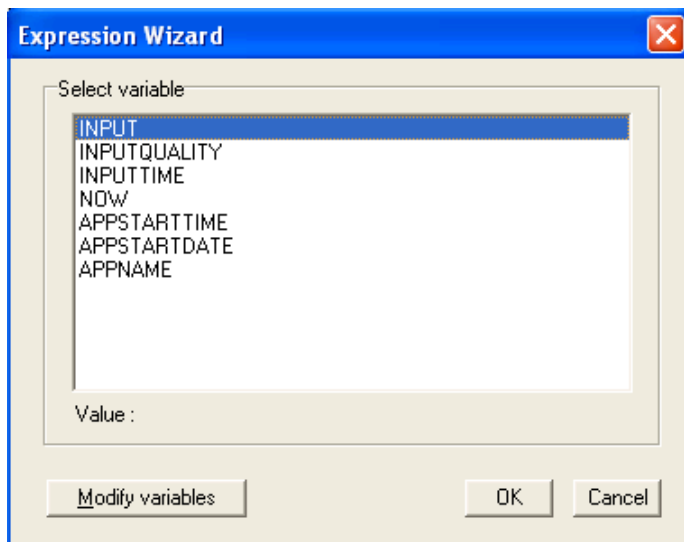

Figure 25 - Select Variable Window
11. Click on the **Variable** button to go to the **Select variable** (Figure 25) window. After selecting the required variable, click on the **OK** button to close the **Select variable** window and return to the **Expression Wizard**.